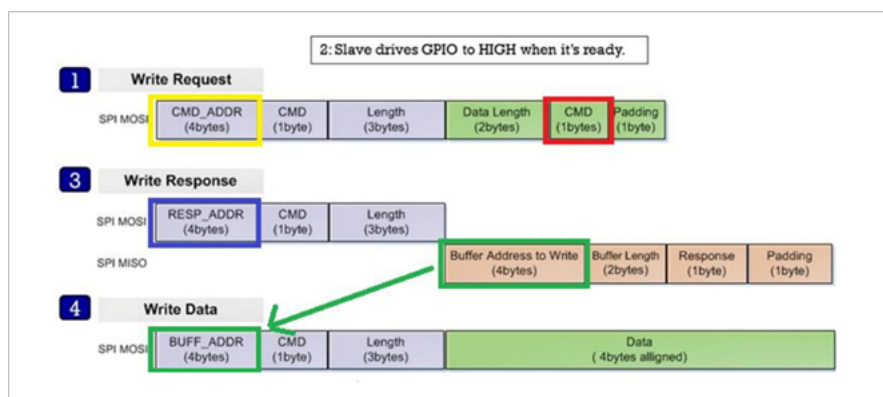

Figure 5. Structure of AT command
- 1: The Host sends a WRITE_REQ command (0x80, red rectangle in Figure 5) to the General Command address (0x50080254) (yellow rectangle in Figure 5). Write request information should be sent at least 100 μ s after the Write request header because two interrupt events might be detected as one.
- 3: The Host reads the Write Response message by Response Command address (0x50080258, blue rectangle in Figure 5) and parses it. Write response header should be sent at least 100 μ s after the Write request info, because two interrupt events might be detected as one. Write response information should be read at least 100 μ s after the Write response header, because two interrupt events may be detected as one. The remaining data exchange can be handled immediately as RA6W1 is already prepared for remaining communication.
- 4: The Host sends data to address (BUFF_ADDR) which is received from the Slave in the Write Response message (green rectangle in Figure 5).